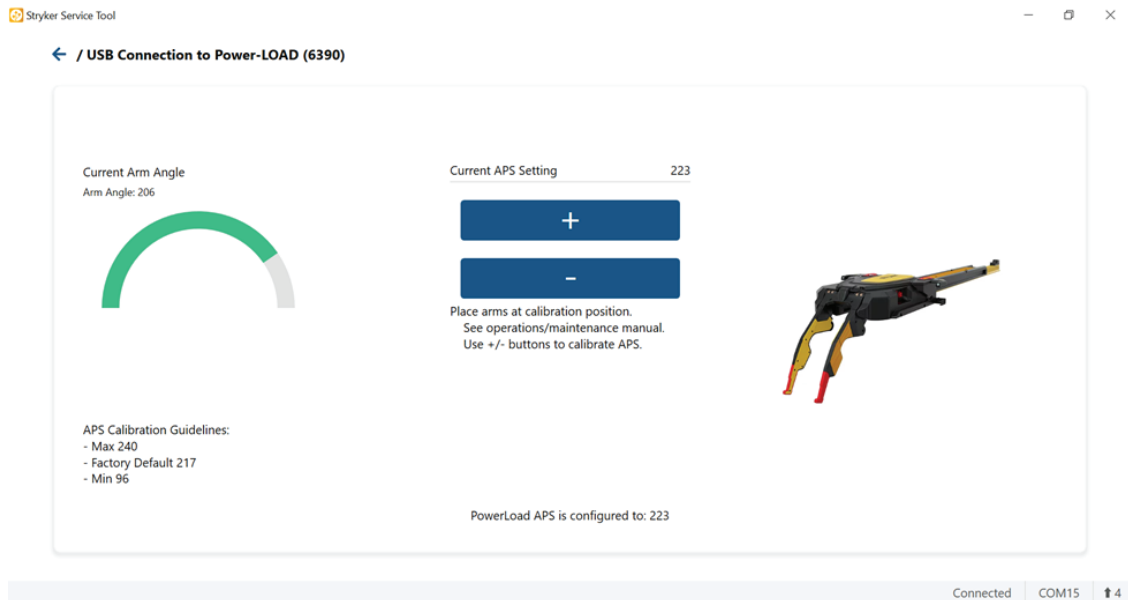

Figure 10 – Save the new configuration
14. When you are done changing the PL Unloading Adjustment value, click **Set** to save the configuration (Figure 10).